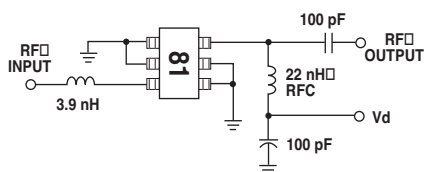
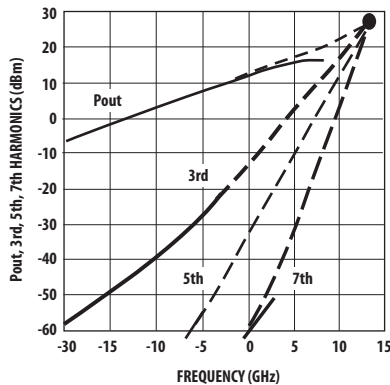

Figure 10. Test Circuit.
Figure 19. Intermodulation Products vs. Input Power. ($V_d = 3.0\text{ V}$)
1. Guaranteed specifications are 100% tested in the circuit in Figure 10 in the Applications Information section.
The circuit shown in Figure 10 is used for 100% RF testing of Noise Figure and Gain. The 3.9 nH inductor at the input fix-tunes the circuit to 2 GHz. The only purpose of the RFC at the output is to apply DC bias to the device under test. Tests in this circuit are used to guarantee the NF_{test} and G_{test} parameters shown in the table of Electrical Specifications.
Like other active devices, the intermodulation products of the MGA-81563 increase as the device is driven further into nonlinear operation. The 3rd, 5th, and 7th order intermodulation products of the MGA-81563 are shown in Figure 19 along with the fundamental response. This data was measured in the test circuit in Figure 10.